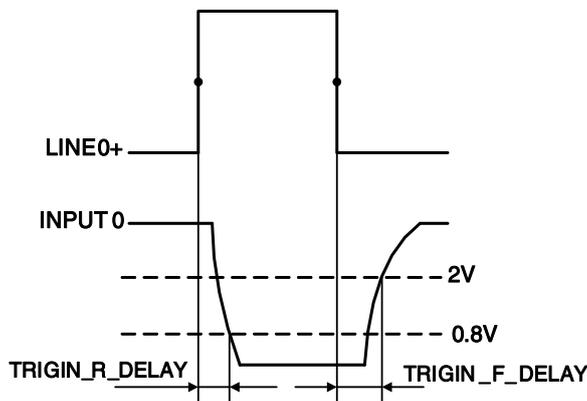

Figure 7-4 Parameter of opto-isolated input circuit
- Total delay time of rising edge: $<50\mu\text{s}$ ($0^{\circ}\text{C}\sim 45^{\circ}\text{C}$), parameter description as shown in Figure 7-4
- Total delay time of falling edge: $<50\mu\text{s}$ ($0^{\circ}\text{C}\sim 45^{\circ}\text{C}$), parameter description as shown in Figure 7-4
- Input rising time delay: $<2\mu\text{s}$ ($0^{\circ}\text{C}\sim 45^{\circ}\text{C}$), parameter description as shown in Figure 7-4
- Input falling time delay: $<2\mu\text{s}$ ($0^{\circ}\text{C}\sim 45^{\circ}\text{C}$), parameter description as shown in Figure 7-4